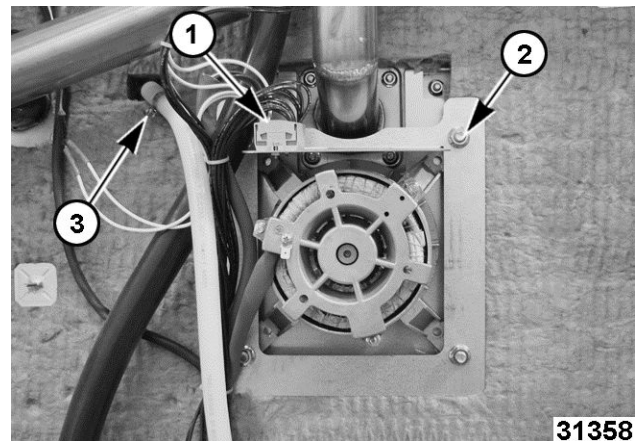

Fig. 120
2. Note and disconnect motor wires (1, Fig. 120) at TB2.